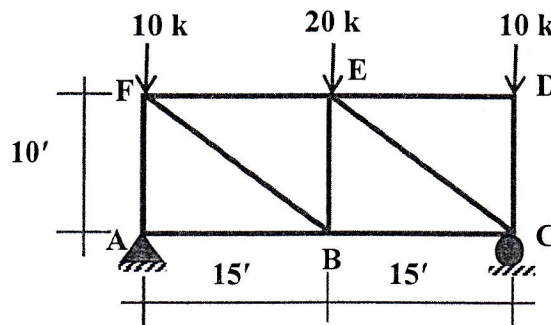

Figure 7
- [7] Use the Method of Virtual Work determine the minimum cross-sectional area for the members of the truss shown in Figure 7, so that the vertical deflection at joint B does not exceed 0.5 inches. Assume,  $E = 1.8 \times 10^3 \text{ ksi}$ , EA is constant.